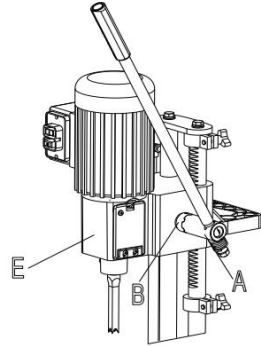

Fig. 3
2. Raise mortising machine head (E) Fig. 3, to the up position by turning handle (A) clockwise. NOTE: Handle (A) is spring-loaded and can be repositioned by pulling out handle and repositioning it on pinion shaft (B).